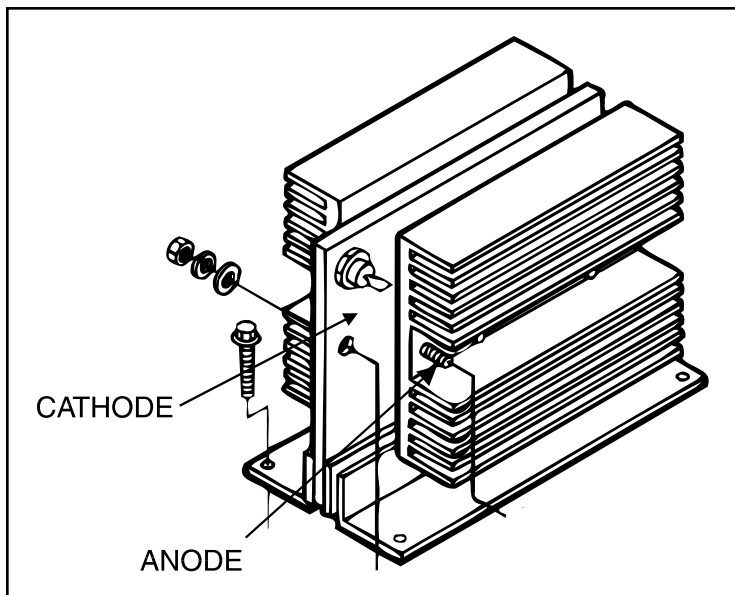

FIGURE F.4 - SCR 1 Test Points.
6. Test for high or infinite resistance from the anode to the cathode of SCR 1. See Figure F.4. Use an analog ohmmeter (Multimeter).
7. Test for high or infinite resistance from the cathode to the anode of SCR 1 by reversing the meter leads. See Figure F.4.